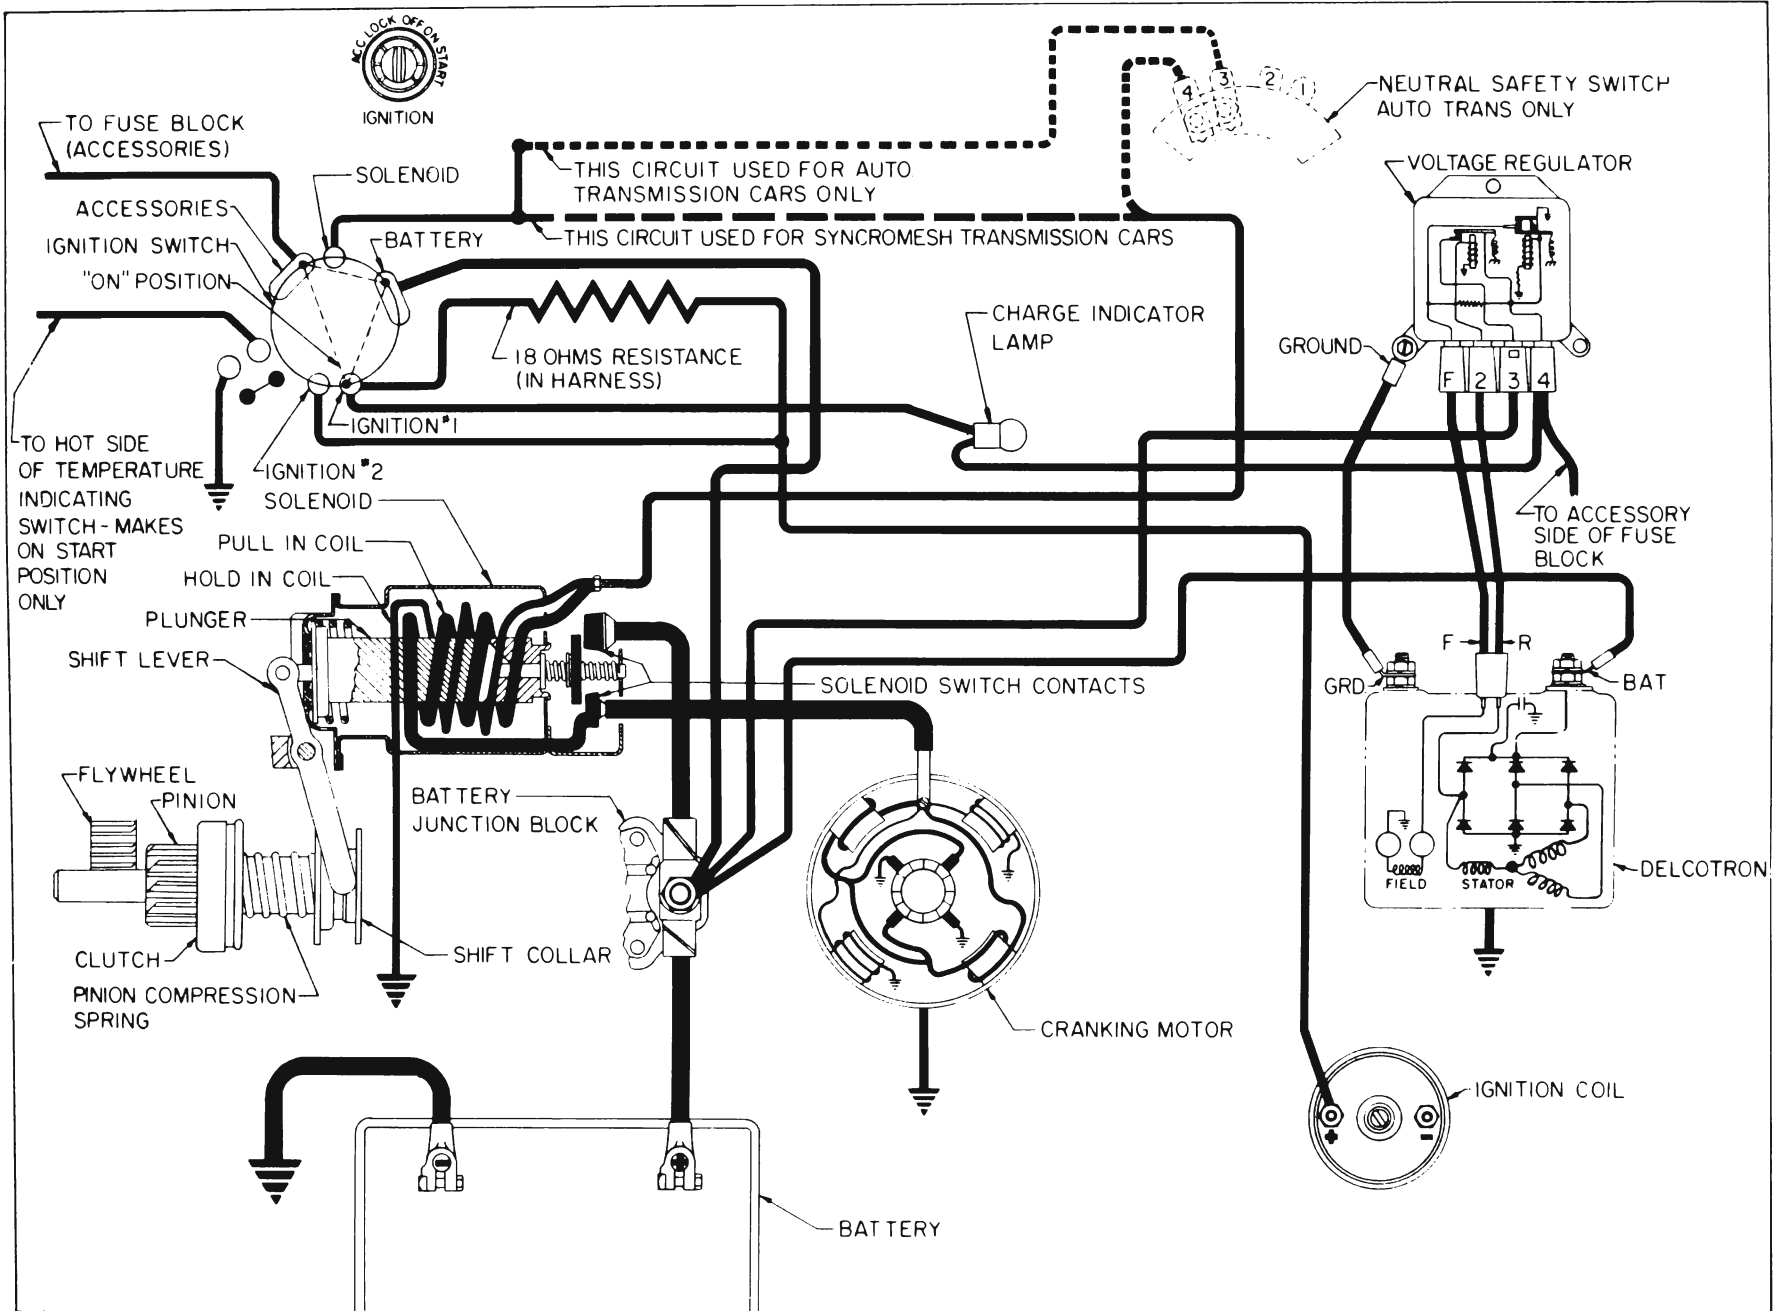

Figure 10-28—Cranking System Circuits
The cranking system, shown schematically in Figure 10-28, is composed of the following units:
possible gear clash. See Figure 10-28.
The closing of the solenoid switch contacts causes the motor to crank the engine and also cuts out the "pull-in" coil of the solenoid, the magnetic pull of the "hold-in" being sufficient to hold the pinion in mesh after the shifting has been performed. *This reduces the current consumed by the solenoid while the cranking motor is operating. See Figure 10-28.
4. Slowly adjust resistance until voltmeter reads 10 volts and note ammeter reading. This shows current draw of both windings in parallel, and should be 47 to 54 amperes at 10 volts, with solenoid at room temperature. See Figure 10-28 for a diagram of solenoid circuits.